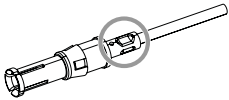
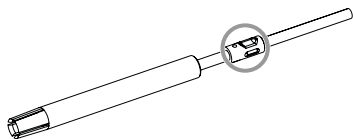

Fig. 38: Pilot contacts
Fig. 40: Auxiliary contacts
- Crimp contact and cable (if necessary including the reducing bushing) using the crimping tool (see section "4. Tools"), as shown in Fig. 38 or Fig. 40.